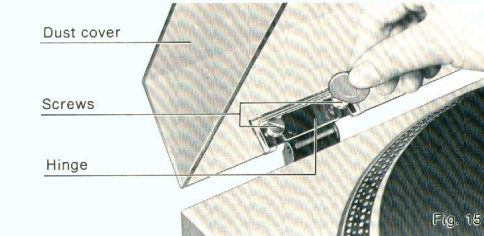

Fig. 15
⑩ Installation of the dust cover (See Fig. 15)